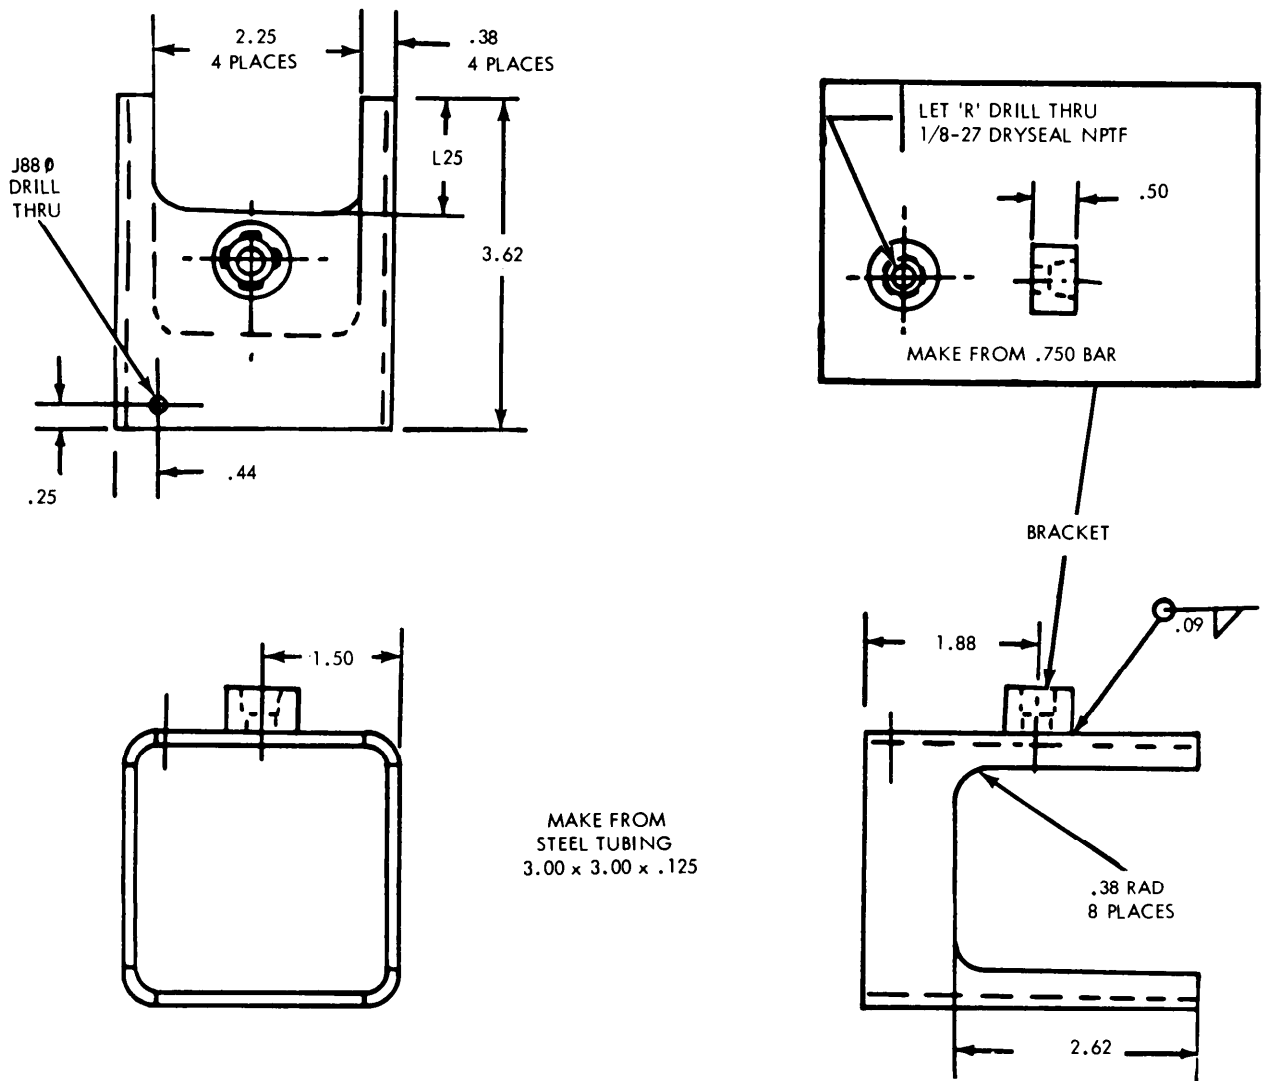

Figure 4-7. Filter clog indicator shield fabrication.
- (h) Shield and plug assembly, (fabricated by Direct Support Maintenance) (figs. 4-7 and 4-8).